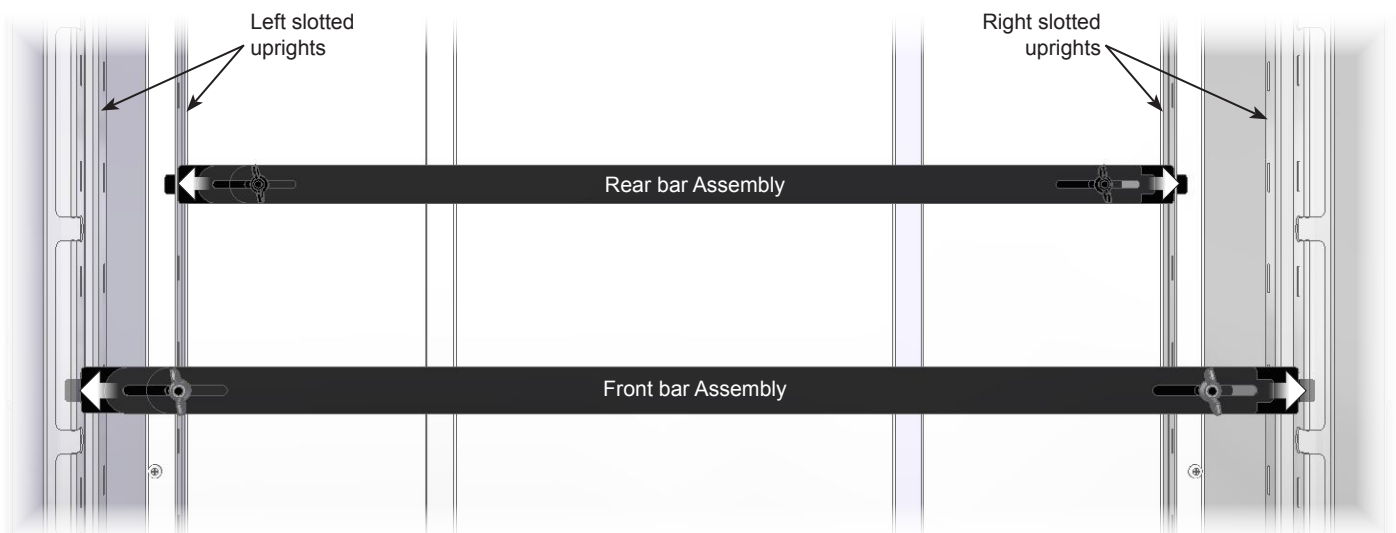

Figure 2
1. Determine the approximate location (height) you would like the module to be mounted. The rear bar is (1) slot higher than the front.
2. Insert one tab into a slot in the left slotted upright. **Figure 2**.
4. Lock the extended position of the bars by securely tightening the (2) wingnuts. Be sure both wingnuts are tight.